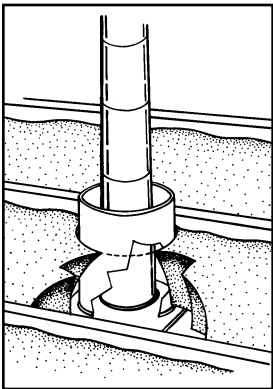

Figure 3
- Do not cover or hand pack insulation around bare stove pipes, electrical fixtures, motors, or any heat-producing equipment such as recessed lighting fixtures (unless they are IC - insulation contact - rated). Keep at least a three-inch space between these materials and insulation (Figure 3). The "Attic bypasses" Home Energy Guide gives detailed instructions on how to seal air leaks around these fixtures.